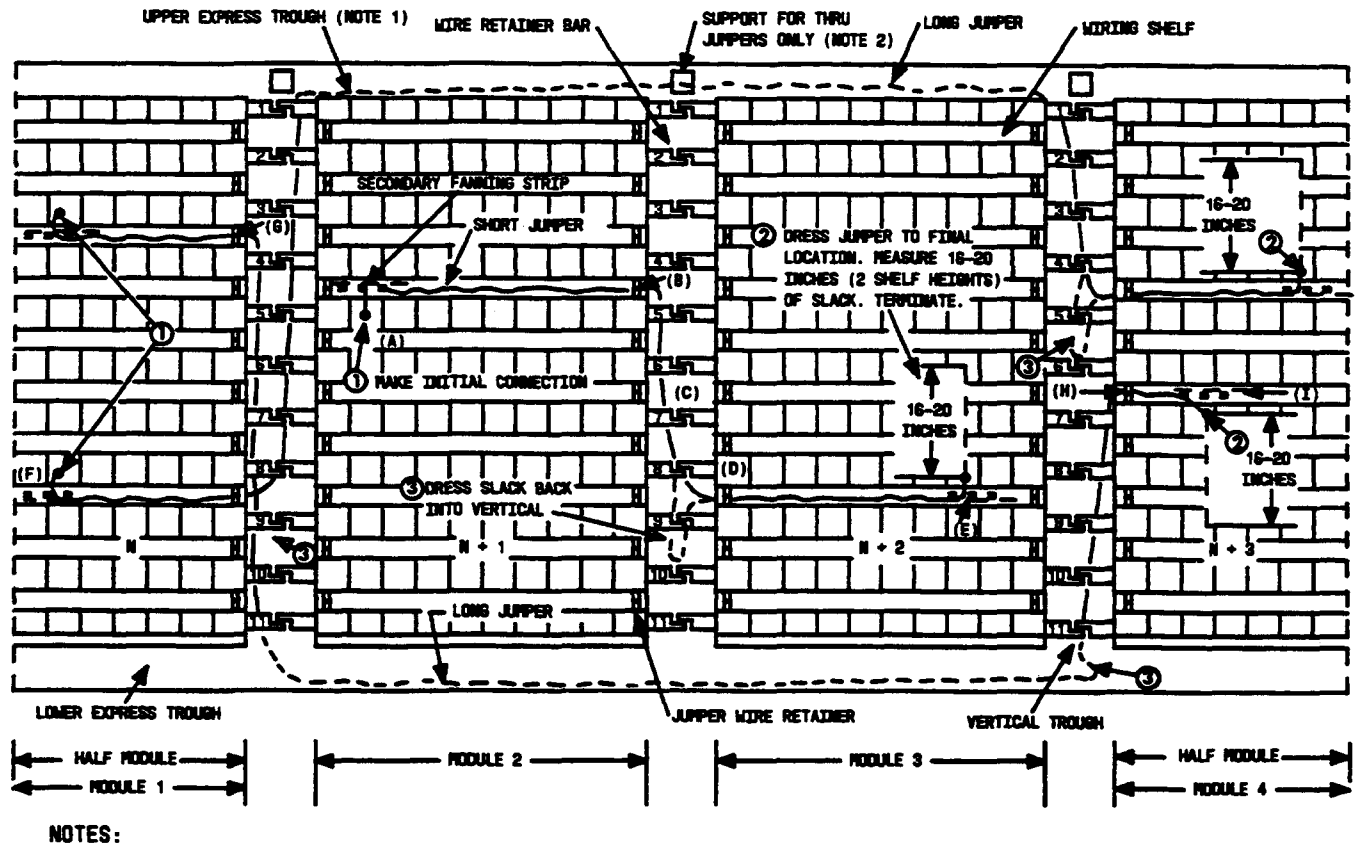

Figure 18—Method of Running Jumpers on COSMIC I, IA, II, or IIA Distributing Frames
**Note:** Refer to Figure 18 for jumper running functions and reference to letter designations for running short jumpers.
- (1) Using the correct wire insertion tool, connect the jumper to the designated terminals.
- (2) Dress the jumper into the primary fanning strip (Figure 18 [A]) that is closest to the terminals (top for rows 1 and 2 and all of shelf 11, bottom for rows 3 and 4 and all of shelf 1).
- (3) Then, dress the jumper into the secondary fanning strip and into the vertical trough, working toward the second termination. The jumper must be run behind the jumper wire retainer (Figure 18 [B]).
- (4) Run the jumper up, or down (as required), into the vertical trough until reaching the proper horizontal shelf.
- (5) Place the jumper behind the wire retainer bars (Figure 18 [C]).
**Note:** If LOIS indicates "U" (upper), run the jumper wire on the shelf above the indicated connecting block shelf, and if LOIS indicates "L" (lower), run the jumper wire on the shelf below the indicated connecting block shelf (Figure 18).
- (6) Run the jumper wire on the horizontal shelf, behind the jumper wire retainer (Figure 18 [D]). Leave about 16 to 20 inches of slack, and then cut the jumper wire.
- (7) Using the proper wire insertion tool, connect the jumper wire to the tip and ring terminals, then into the primary, and then into the secondary fanning strip.
- (8) Dress the slack into the vertical trough (Figure 18 [E]).
**Note:** Refer to Figure 18 for jumper running functions and references to letter designations for running long jumpers.
- (1) Locate the assigned terminal on the lower numbered module (Figure 18 [F]).
- (2) Using the correct wire insertion tool, connect the jumper to the designated terminal
- (3) Dress the jumper on the shelf, working toward the second termination on the higher numbered module.
- (4) Place the jumper into the vertical trough behind the jumper wire retainers (Figure 18 [G]).
- (5) Run the jumper to the proper express trough by proceeding as follow:
- (6) Dress the jumper behind the wire retainer bars.
- (7) Run the jumper wire in the upper or lower express trough to the vertical trough that is immediately prior to the final terminal location regardless of the terminal location within the module.
- (8) If the upper express trough is used, place jumper behind the jumper support bar.
- (9) Run the jumper up or down the vertical trough, as required, until reaching the proper horizontal shelf.
- (10) Place the jumper behind the jumper wire retainer bars (Figure 18 [H]).
- (1) Run the jumper wire on the horizontal shelf and through the appropriate secondary fanning strip (Figure 18 [I]).
- (2) Before cutting the jumper wire, approximate 16 to 20 inches of slack. Dress the slack back through the secondary fanning strip along the horizontal shelf and into the vertical trough.